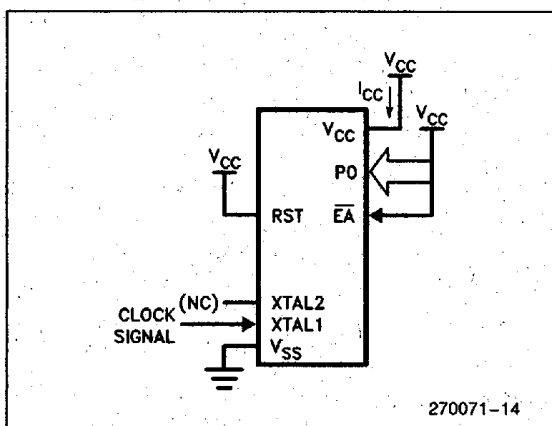

Figure 5. I_{CC} Test Condition, Active Mode.
3. I_{CC} is measured with all output pins disconnected; XTAL1 driven with TCLCH, TCHCL = 5 ns, $V_{IL} = V_{SS} + 0.5V$, $V_{IH} = V_{CC} - 0.5V$; XTAL2 N.C.; $\overline{EA} = RST = Port 0 = V_{CC}$. I_{CC} would be slightly higher if a crystal oscillator is used (see Figure 5).